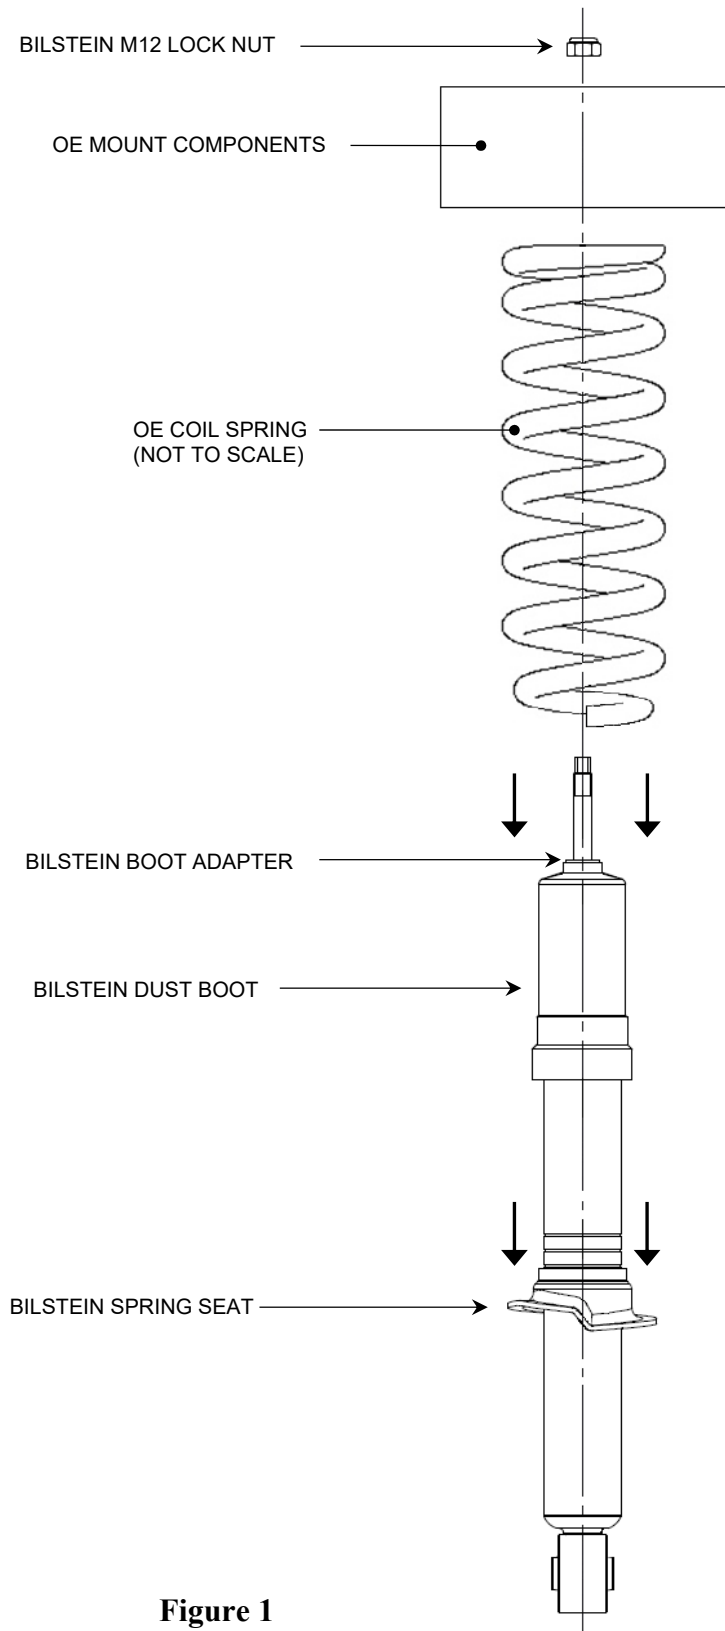

Figure 1
1. Install the spring seat onto the shock body as shown. Ensure that the groove inside the spring seat fits over the circlip on the shock body (see page 2 detail (A)). The dust boot and boot adapter will need to be removed to slide the spring seat on.
2. Re-install the dust boot and boot adapter onto the stem of the rod as shown. The boot adapter is clipped into the top of the dust boot. Install OE coil spring and re-install all original mount parts in reverse order of removal in accordance with the vehicle manufacturer's Service Manual. Please refer to Figure 1 for the proper order of installation of the module components.